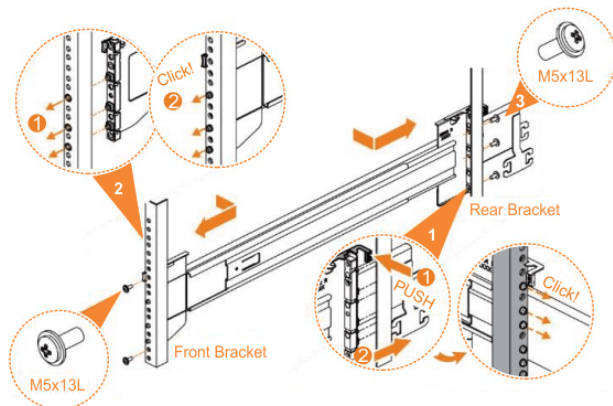

Figure 50. Installing the rail assembly to the rack frame
6. Use the M5 screws to install the outer rail member and bracket assembly to the rack, as shown in Figure 50 on page 83.